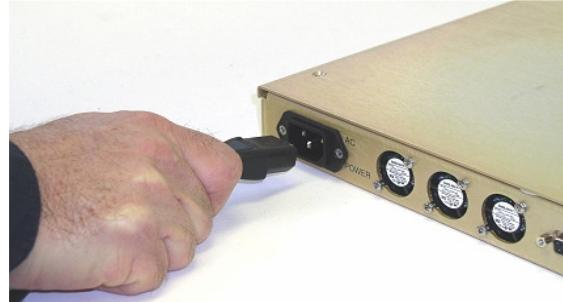

Figure 8. 1UR Power Connection
- 4) Plug supplied Power Cable female end into 1U chassis rear panel POWER receptacle as shown in Figure 8.